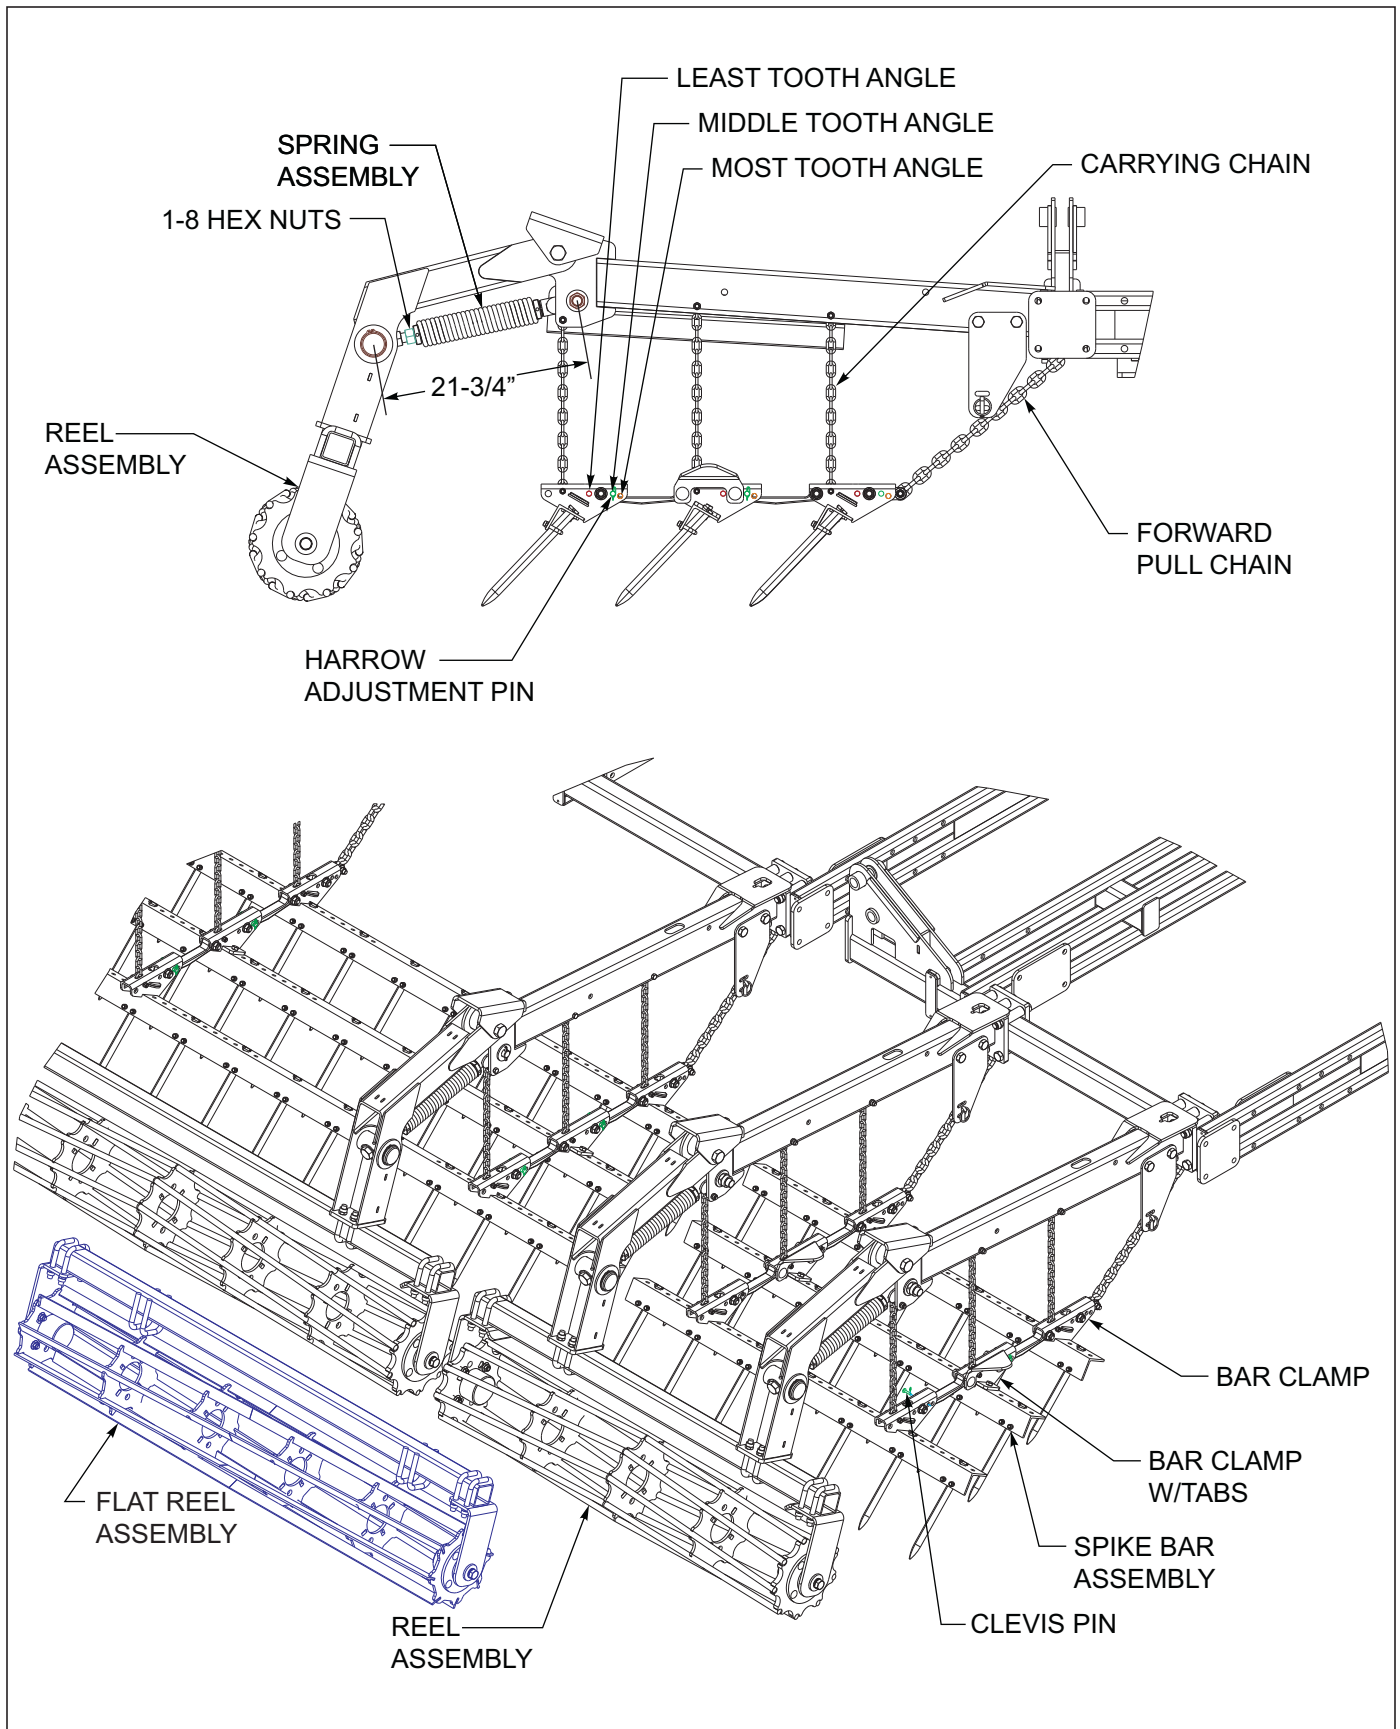

Figure 4-16: 3 Row Spike and Reel Adjustments
3. For the most aggressive spike tooth action, install the harrow adjustment pin in the forward mounting hole over each bar clamp for each spike bar (**See Figure 4-16**) This will position the spike teeth to be in the most vertical position. In wetter or conditions with some residue, lower the spike tooth angle by positioning the harrow adjustment pin in the middle or rear hole. This will allow the teeth to lay flatter and shed more residue.